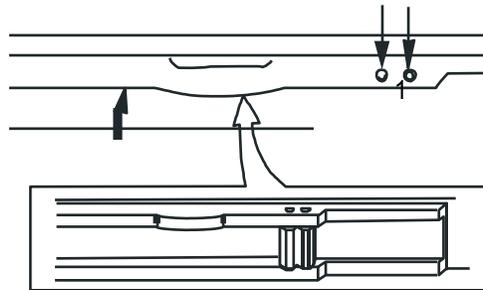

Figure 7. Upper Rail Bulge
1. Check the upper rail of the cocking handle channel (Figure 7, Item 2) for a bulge just rear of the cocking handle stop (Figure 7, Item 1).